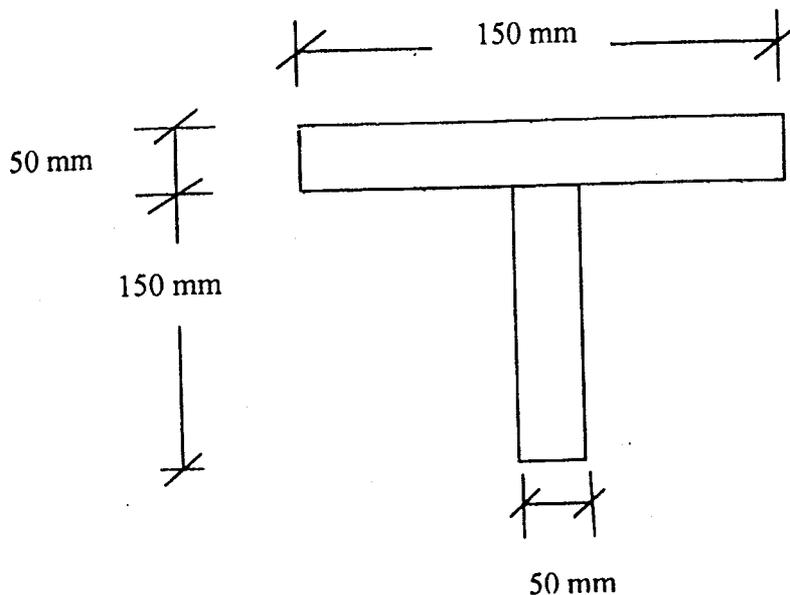

Fig. 13 (a)
13. (a) Two wooden planks 50 x 150 mm each are connected together to form a cross section of a beam as shown in fig. 13(a). If a bending moment of 3400 Nm is applied around the horizontal neutral axis, find the stresses at the extreme fibres of the cross section. Assume tension below the neutral axis. Also calculate the total tensile force on the cross section.